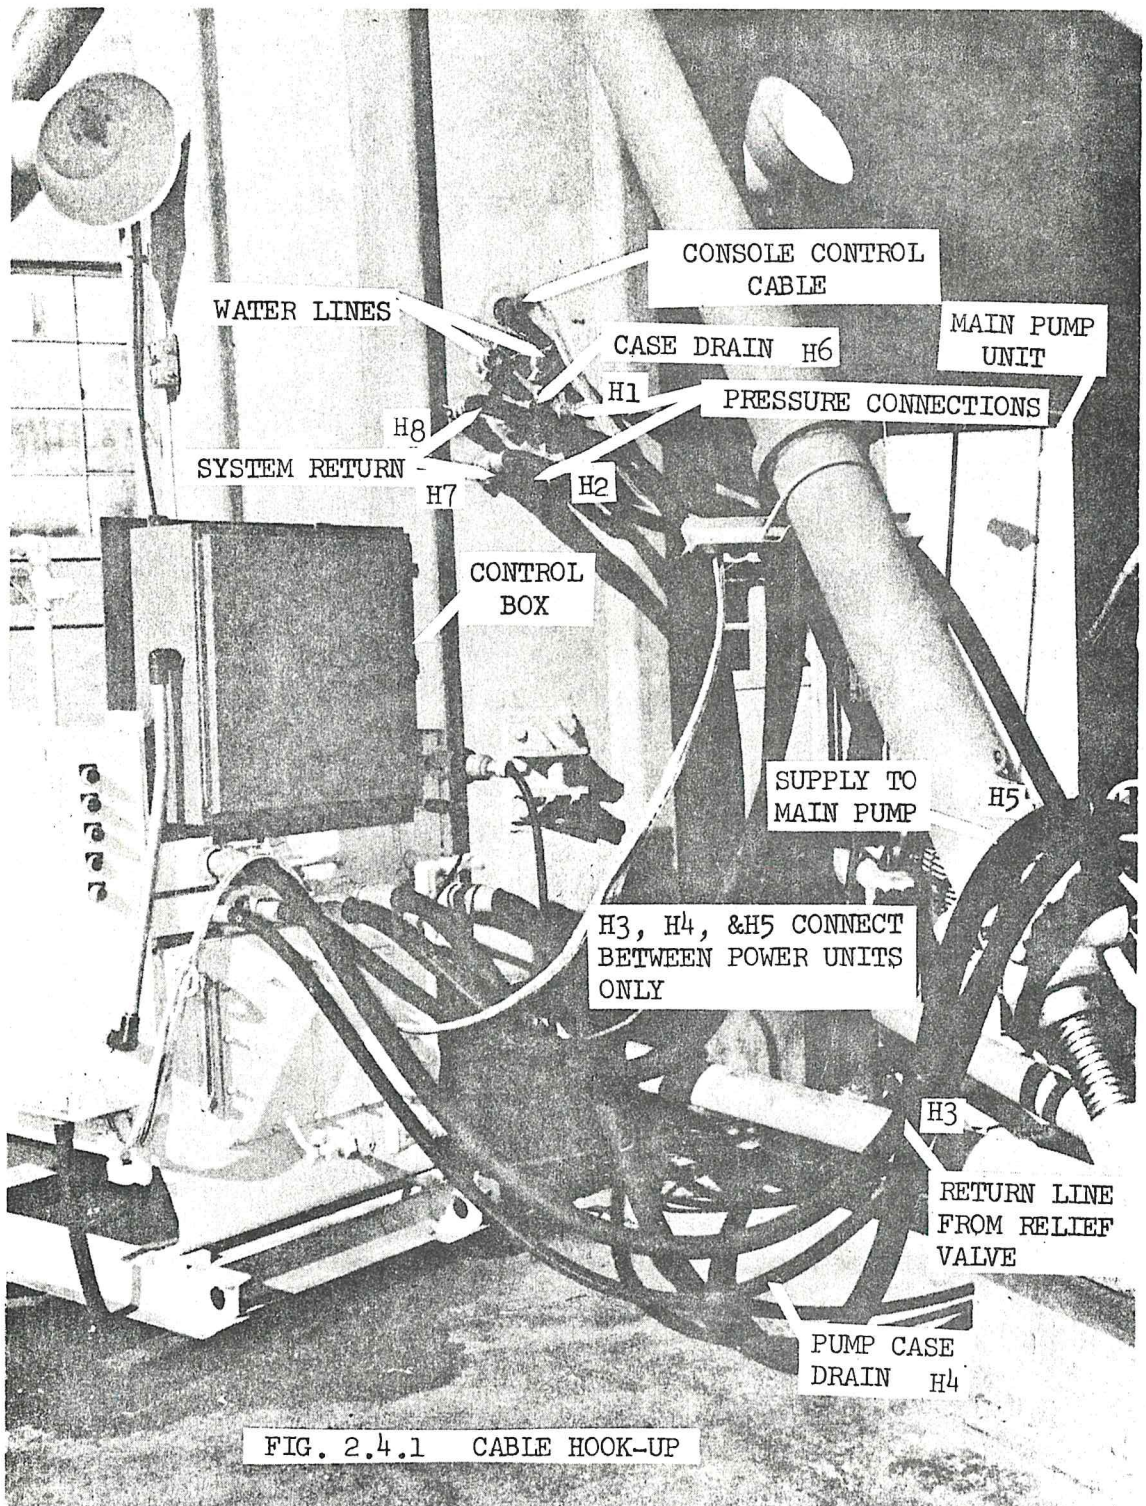

FIG. 2.4.1 CABLE HOOK-UP
- (s) Connect hydraulic lines and mainpower line to the antenna Figure 2.4.1 and 2.4.2.